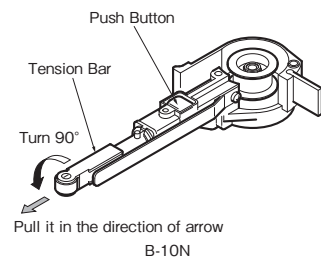

Fig.16
- a) B-10N, B-20N, B-20NB (Figs.16 and 17)
(See Fig.16 for B-10N)